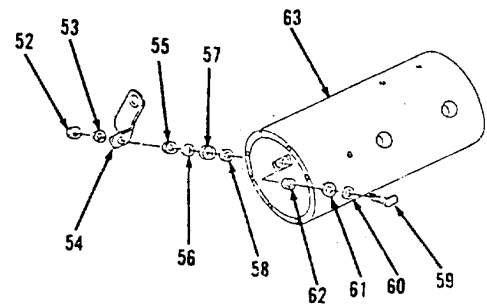
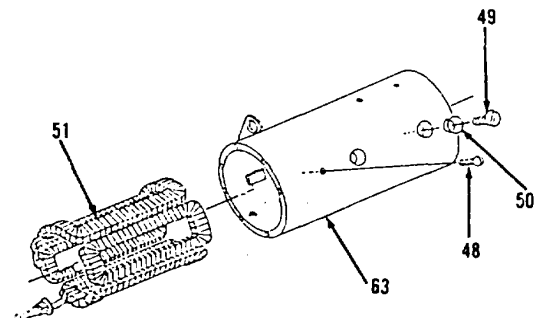

Figure 4-68.
Figure 4-67.
1. Install stud (62), spacer (61), lockwasher (60) and bolt (59) to inside of frame (63, Figure 4-68).
2. Install spacer (58), stud (57), lockwasher (56), nut (55), connector (54), lockwasher (53) and nut (52) onto bolt (59) on outside of frame (63).
3. Install coil (51) into frame (63, Figure 4-67).
4. Install four studs (50) and screws (49).
5. Install three screws (48).